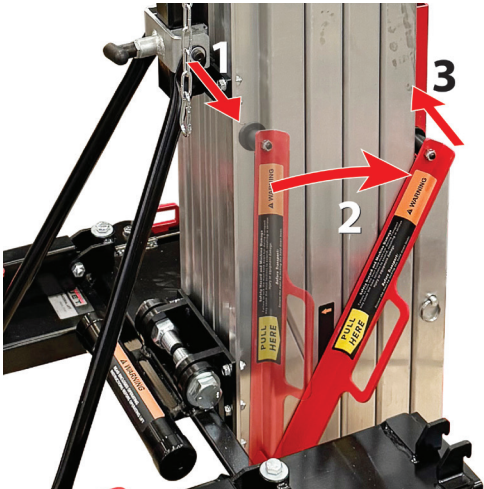

Figure 7-11: Engaging Mast Locking Arm
4. Engage the mast locking arm. To do so, pull arm outward from its position at the rear of the mast. Rotate the arm forward and release when the rubber wheel is over the fork carriage. Use the winch to raise the fork carriage just enough to make contact with the rubber wheel. See Figures 7-11 and 7-12.